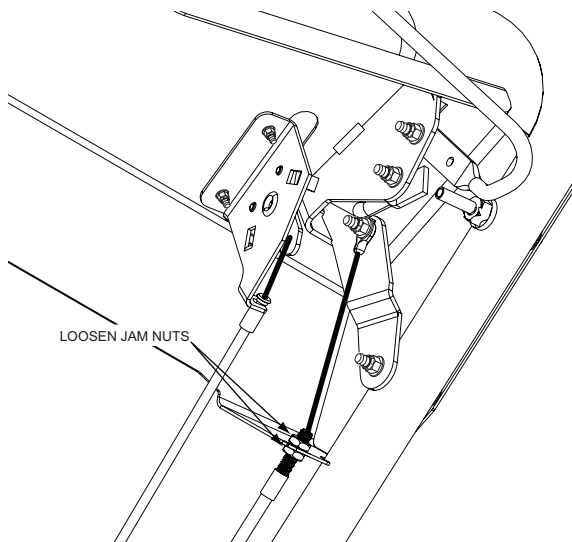

Figure 6-1. Parking Brake Cable Jam Nuts
3. Release the parking brake and loosen the jam nuts securing the park brake cable to the handle bar bracket. See Figure 6-1.